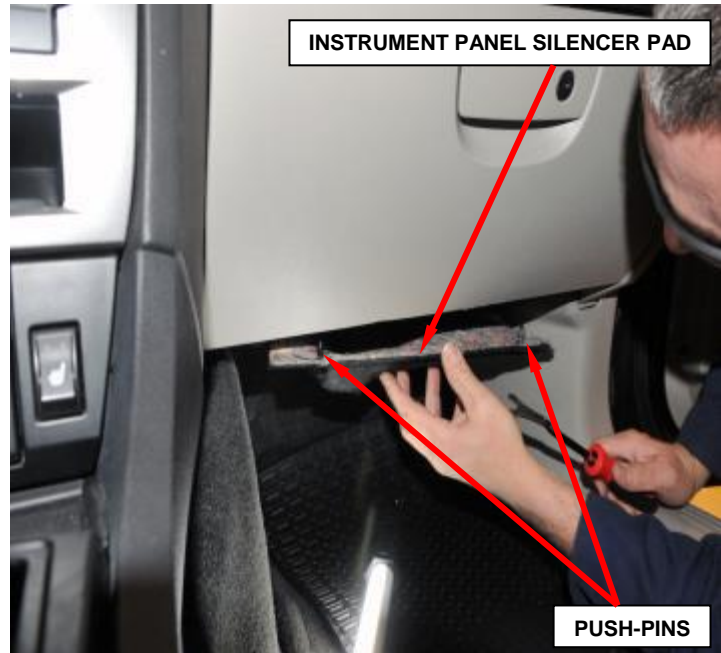

Figure 10 – Instrument Panel Silencer
- a. Remove and save the two push-pins that secure the instrument panel silencer to the instrument panel (Figure 10).